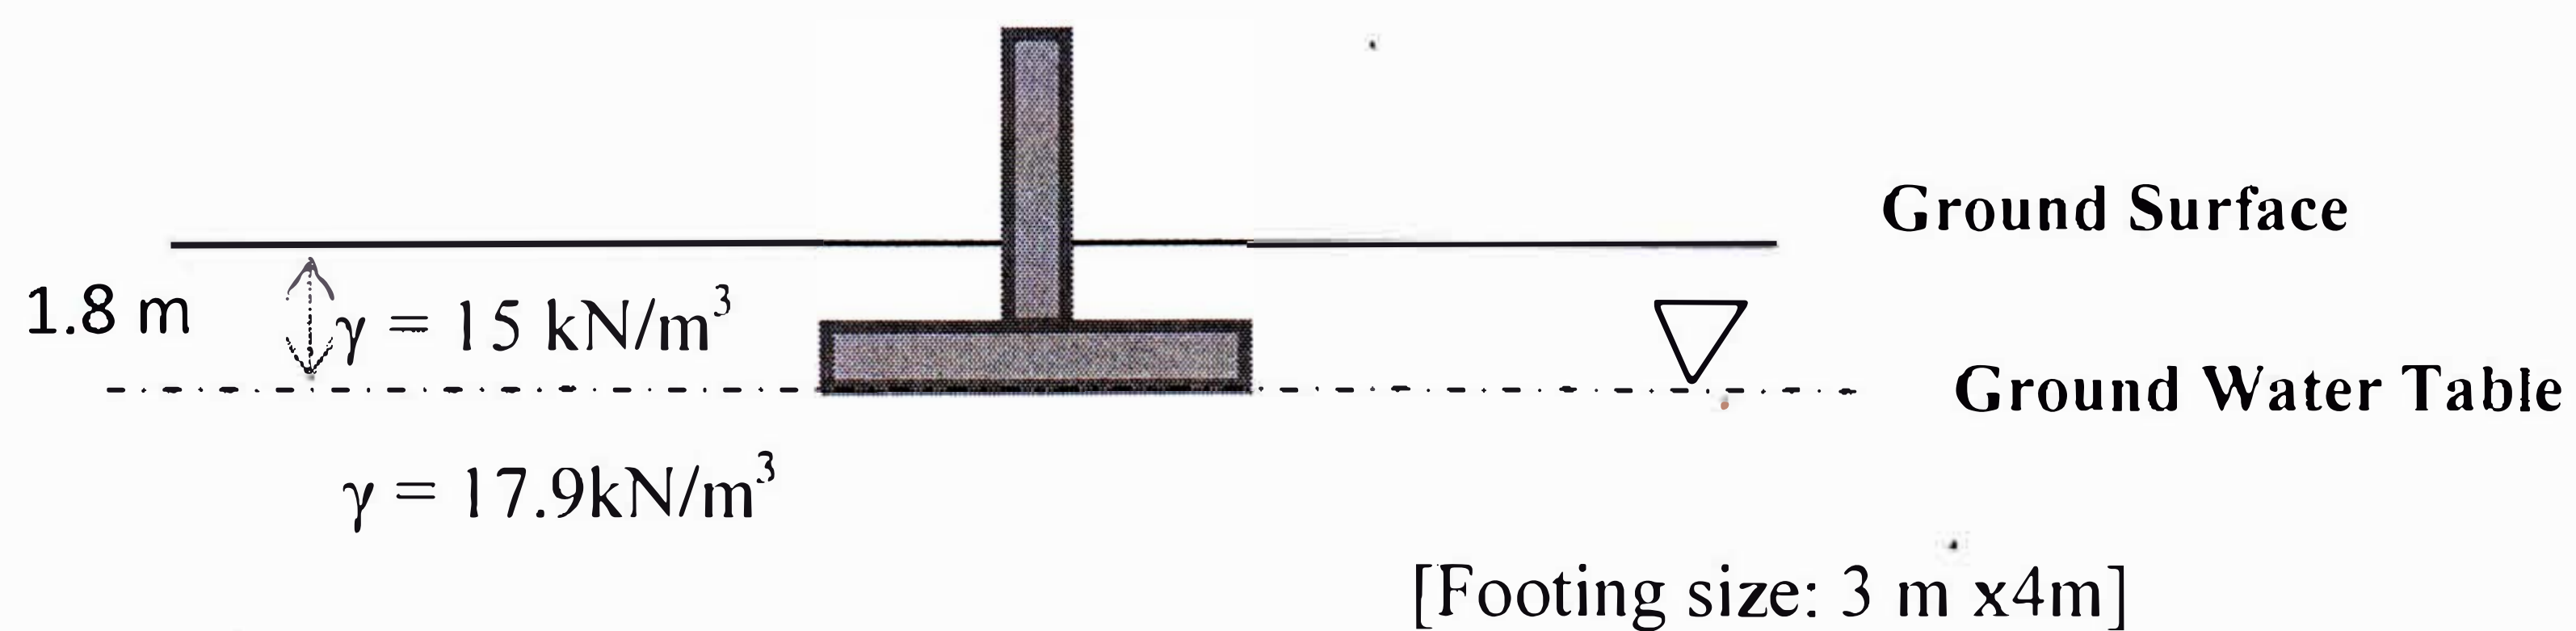

Figure 1
- 2.(a) For the individual shallow footing (Figure 1), calculate the following: